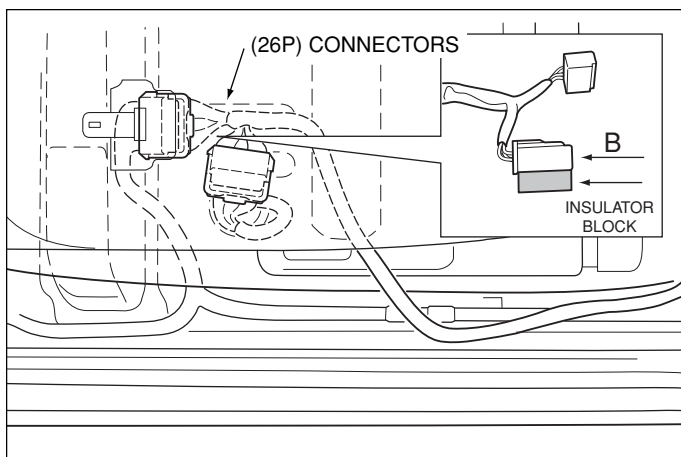

Fig. C5
- ➔ i. Attach the insulator block to the under side of the converter (26P) wire harness male connector (B). (Fig. C5)
- ➔ ii. Connect the converter (26P) connectors between the 2 vehicle side (26P) connectors as shown. (Fig. C5)
- ➔ iii. Route the (26P) connector wire harness along the vehicle's wire harness. (Fig. C5)
- ➔ iv. Secure the (26P) wire harness male connector (B) to the floor of the cab as shown. (Fig. C5)